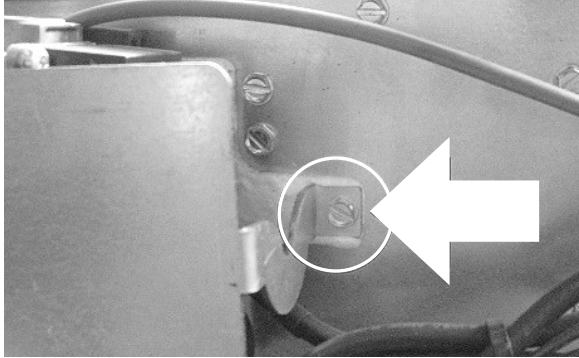

Figure 2
2. **Figure 2** shows the screw on the right underside of the firebox which secures the front of the valve bracket, remove this screw. Keep this screw in a safe place as it will be needed to secure the valve bracket again once the logset burner is installed.